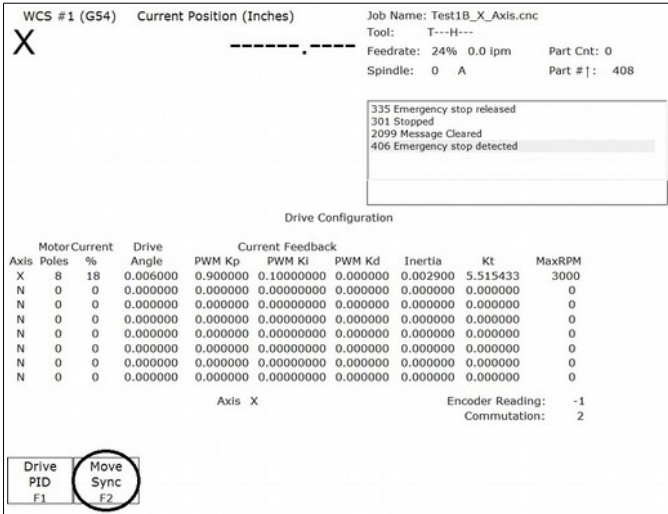
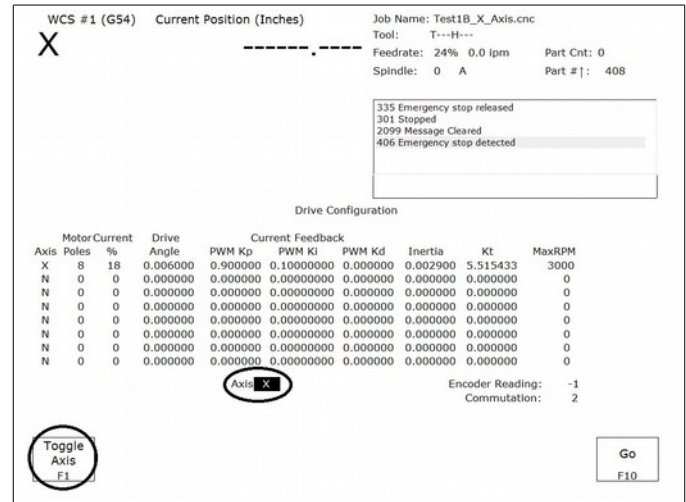

Figure 2. Drive Configuration Menu
Figure 3. Move Sync
- Press **F2-Move Sync** as circled in Figure 2. The axis selected is shown underneath PWM Kp as circled in Figure 3. If you are not on the correct axis, press **F1-Toggle Axis** until the correct axis label is on the screen. Finally press **F10-GO**. The shaft should rotate. The first move sync rotation may cause the motor to jerk or move roughly. Move sync a few more times by pressing **F2-Move Sync** then **F10-GO** repeatedly. All move syncs after the first sync should cause the shaft to rotate smoothly. **If the motor oscillates wildly, moves erratically, or makes loud unusual noises, kill the motor power immediately!**